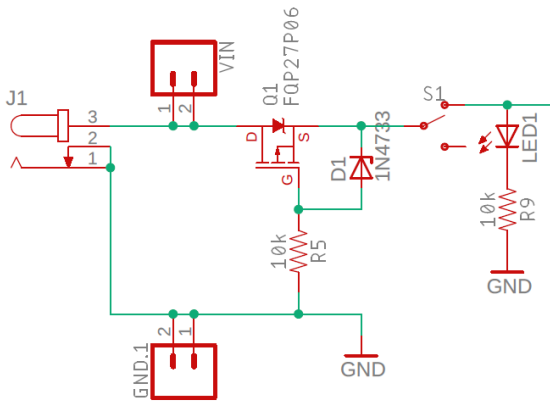
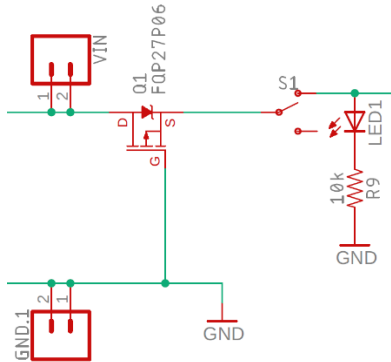

Figure 4: The reverse voltage protection circuit for the audio board.
Figure 6: A simplified version of the reverse voltage protection circuit used on the audio board
It is said that to err is human. When working with your audio board, one of the most costly errors that you could make would be to apply the 9V and GND power inputs backwards, called reverse voltage. On an unprotected circuit, prolonged application of reverse voltage will permanently damage components like op amps, BJTs, and MOSFETs. To prevent this tragedy, your audio board comes equipped with the reverse voltage protection circuit shown in Figure 4.
To understand the function of this circuit, it is helpful to eliminate R2 and D1 in Figure 4 and connect the gate of the PMOS transistor directly to GND as shown in Figure 6.
This is awesome, if you hook up your power cables backwards, the PMOS transistor will act like an open switch and the dangerous reverse voltage will not make it into your circuit. Now we need to understand the role of R2 and D1 that we removed to make the analysis in Figure 6.
6. What voltage will appear between the Gate and Source of the PMOS transistor in Figure 4? Assume the Source = V_{in} .